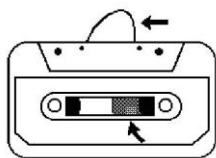

Fig. 1
- Check that there are no loose layers of tape visible through the cassette center window (see Fig. 1). Take up any loose layers, using a pencil or hexagonal barreled ballpoint pen, before inserting the cassette into the machine (see Fig.2)